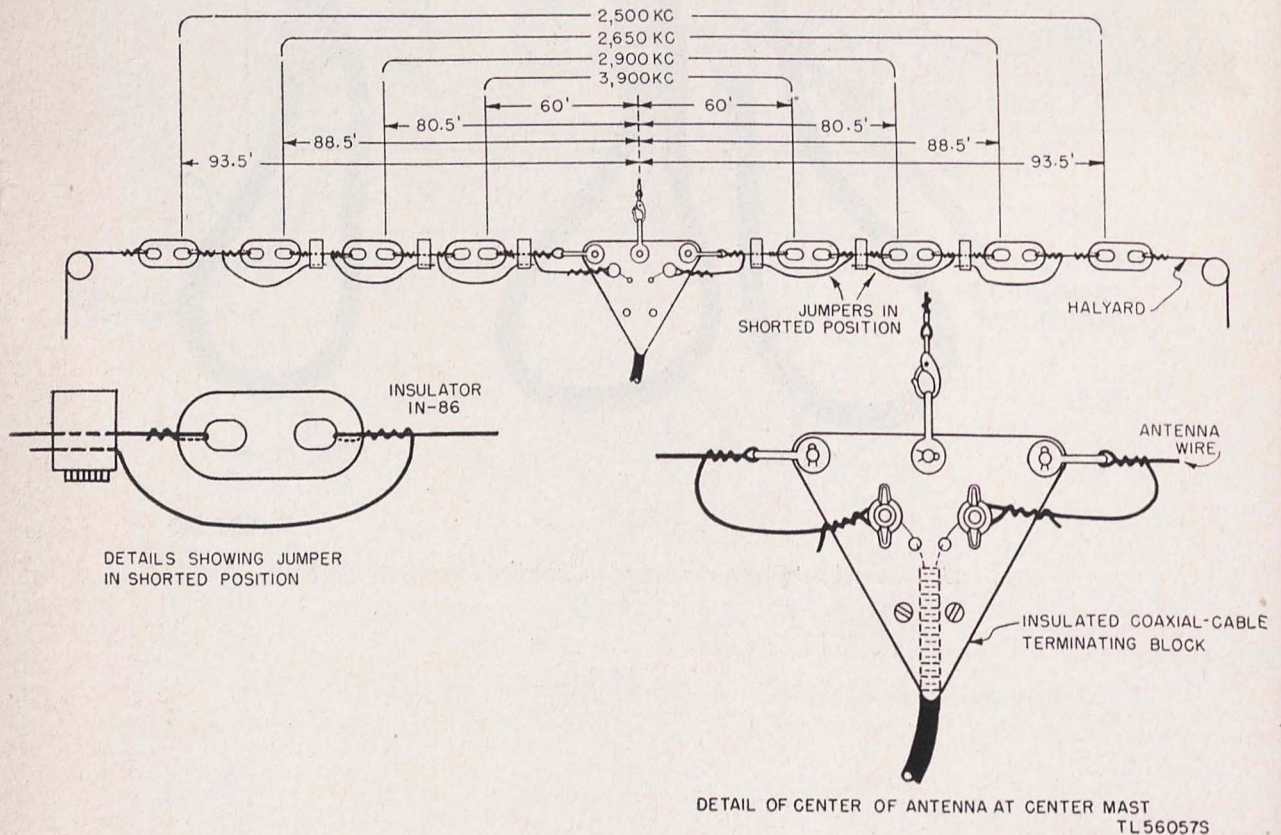

Figure 36. Construction of transmitting antenna.
a. Four 50-foot Antenna Supports AB-38B/CR and the necessary wire, insulators, connectors, and coaxial feed line are provided to construct a doublet transmitting antenna. Three antenna supports are used for the antenna, with the fourth support maintained as a spare. The antenna wire is made up of sections that can be connected by jumpers, allowing preselection of various lengths for operating on different frequencies (fig. 36). Before erecting the antenna, first compute the lengths desired for the various antenna sections.
c. Refer to figure 36 and select the proper antenna lengths for operating frequencies to be used when transmitting.
e. Determine the length of a quarter-wave antenna for the shortest half-wave to be used. In this example, a quarter-wave would be  $\frac{120}{2} = 60$  feet. Attach one end of the antenna wire to the coaxial cable terminating block. Attach the other end of the antenna wire to a transmitting antenna insulator; be sure that the distance from the center of the terminating block to the end fastened to the insulator is exactly 60 feet (fig. 36). Construct the other half of the half-wave antenna in a similar fashion; use the remain-
h. After the various lengths have been determined and constructed, connect the correct jumpers in place (fig. 36). Each antenna selected will operate on the fundamental and approximately at odd harmonics of the frequency to which it is cut. In the example given above, the an-